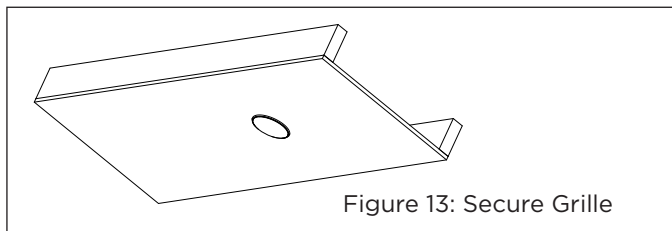

Figure 13: Secure Grille
5. Insert the round or square Micro Trim Grille over the grille aligner (see Figure 13).